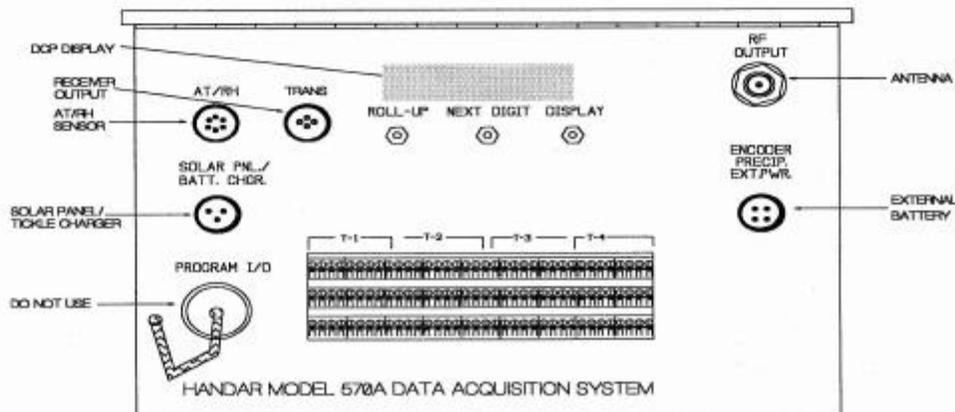

Figure 4-8. DCP Cable Connection and Display Diagram.
Three (3) different DCP models (Model 540A-1, Model 540A-2, and Model 570) currently are in use in the IMPROVE transmissometer network. Cable connections and display readings (570 only) may need to be checked if a DCP malfunction is suspected (refer to Figure 4-8, DCP Cable Connection and Display Diagram). If it is determined that the DCP is malfunctioning, it will need to be turned off and returned to ARS for repair. These procedures are provided in TI 4110-3375, *Replacing and Shipping Transmissometer System Components*.